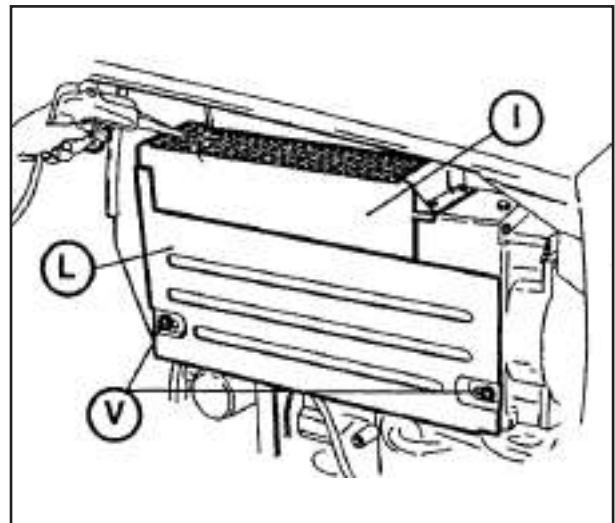

Fig.41
DEUTZ engine oil radiator (Fig. 41)
Always keep the oil radiator clean. Remove screws (V) and cover (L). Clean the radiator with air under pressure, blowing from above the radiator (Fig. 41).